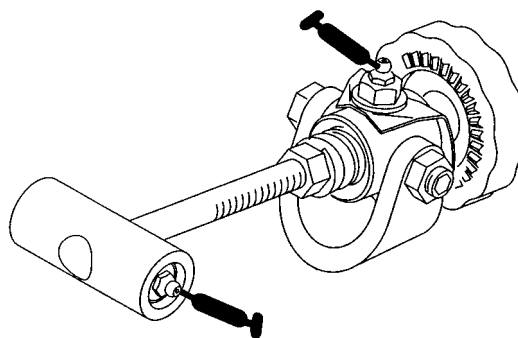
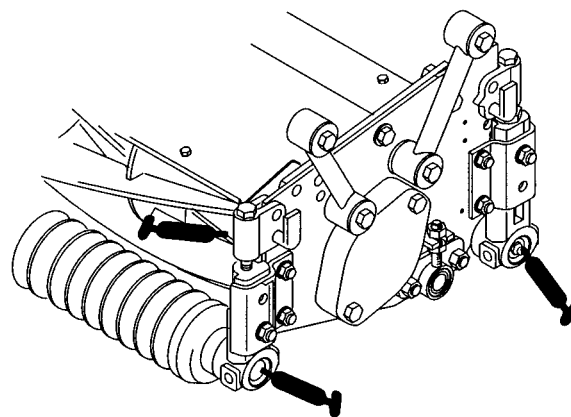

Figure 6
Figure 7
1. The grease fitting locations and quantities are: bedknife adjuster (2) (Fig. 6); reel bearings (inside sideplate), (2) and front and rear rollers (2 ea.) (Fig. 7)